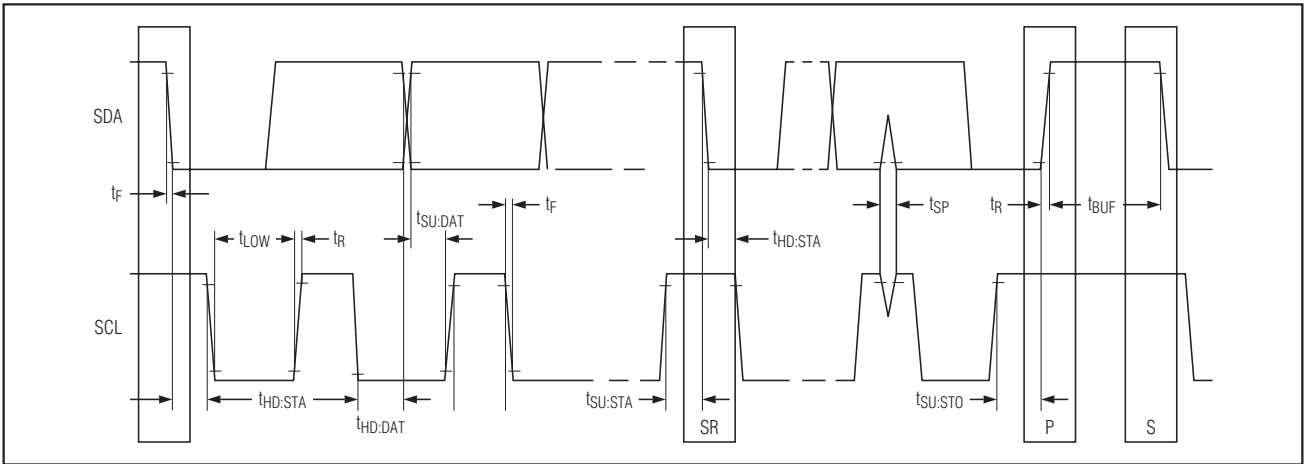

Figure 1. Timing Diagram
**Note 9:** See the timing diagram (Figure 1). All timing is referenced to 0.9 x VDD and 0.1 x VDD.